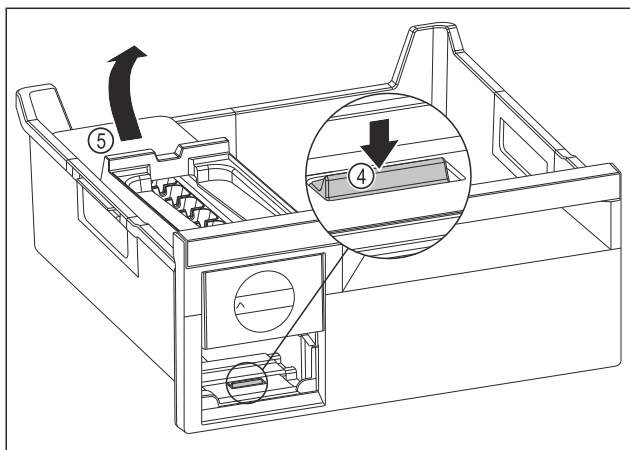

Fig. 212
- Removing the EasyTwist-Ice body: Use your finger to push the tab Fig. 212 (4) down and use your other hand to lift the EasyTwist-Ice body Fig. 212 (5) from behind at the same time.